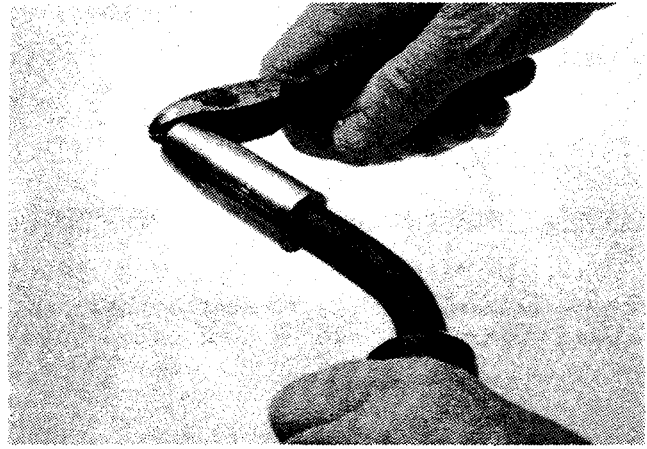

Figure 13
16. Cut off the extra wire so that the end of the wire extends about 1/4" from the tip of the gun. See Figure 13.